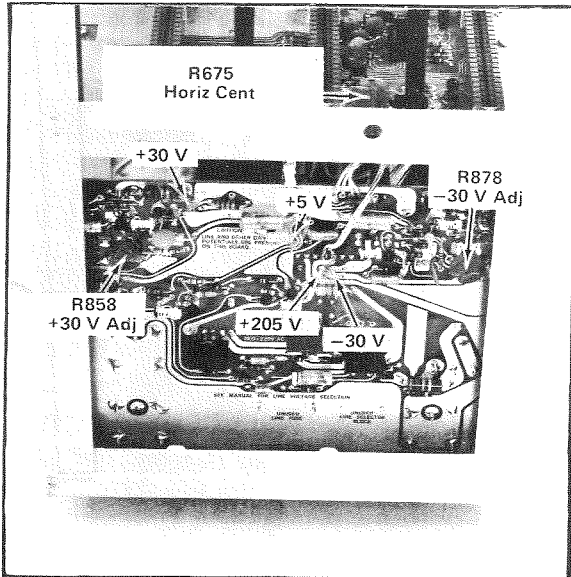

Figure 4-1. 640 Mainframe, Power Supply Test Points
1. Connect a DVM between each of the four test points and Ground, as shown in Figure 4-1.
9. On the mainframe, adjust Horiz Gain R136 to place the dot outside the far right vertical graticule line by the width of the dot (Figure 4-1).